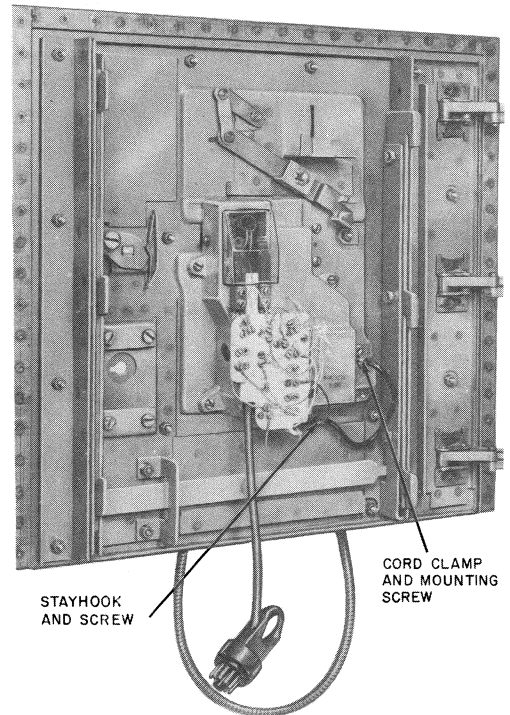

Fig. 19—Location of Armored Cord and Mounting Hardware in 2A/2C-Type Coin Telephone Set
2.28 Refer to Fig. 19 for routing and securing handset cord in 2-type coin telephone sets.